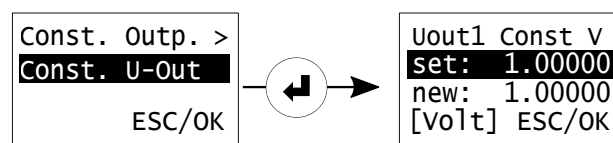

Figure 6.11: setting a constant voltage output
5. **Changing the value of the constant output:** in case you chose the **Const. Outp.** mode, you can manually change the value of the constant voltage output by moving the cursor to the second display line **Const. U-Out**, clicking <ENTER>, and entering the desired value followed by clicking **OK** (see Figure 6.11).